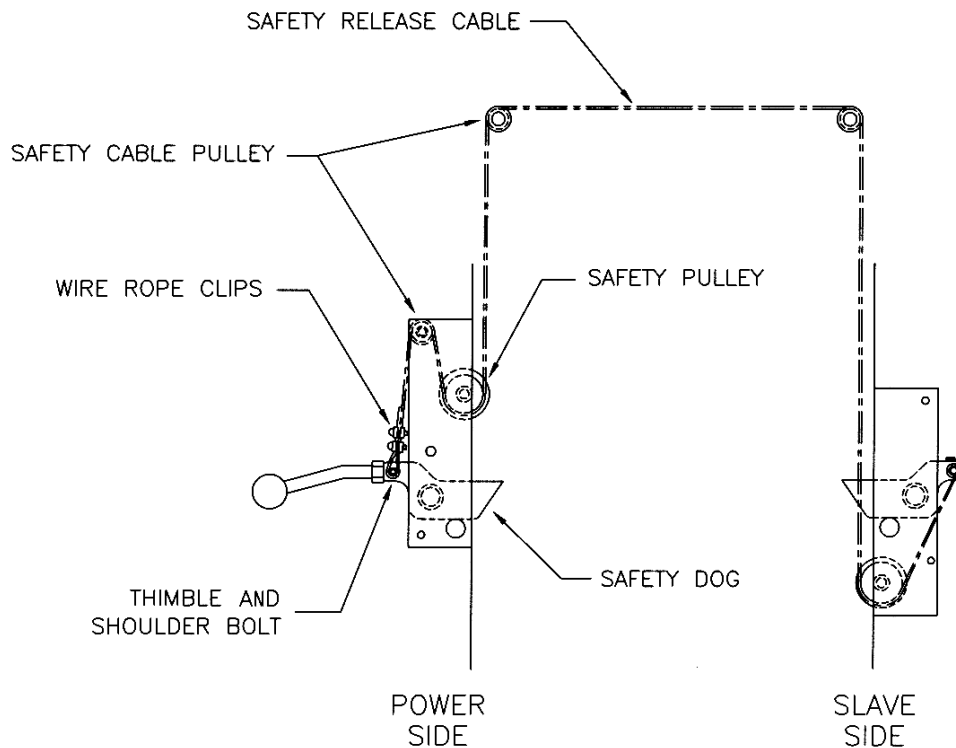

Figure 10 – Safety Release Cable Routing and Adjustment
3. Refer to **Figure 10** for safety release cable routing. The end of the cable that has a collar attaches to the slave side tower. The free end is fixed to the power side tower using two (2) wire rope clips.
8. Guide the cable up under the large pulley and then over the small pulley towards the safety dog as shown in Figure . Wrap the cable around the thimble (attached to the safety dog with a 3/8" x 1 1/2" lg. shoulder bolt) and then clamp it using two (2) wire rope clips. Do not tighten fully at this stage.